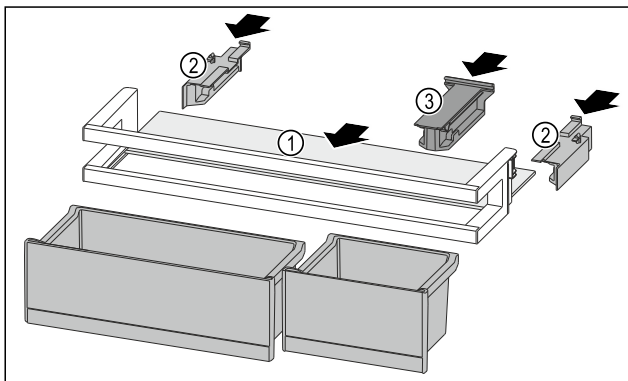

Fig. 86
- Push the shelf Fig. 86 (1) into the side recesses.
- Insert the side parts Fig. 86 (2).
- Insert the holding part Fig. 86 (3).